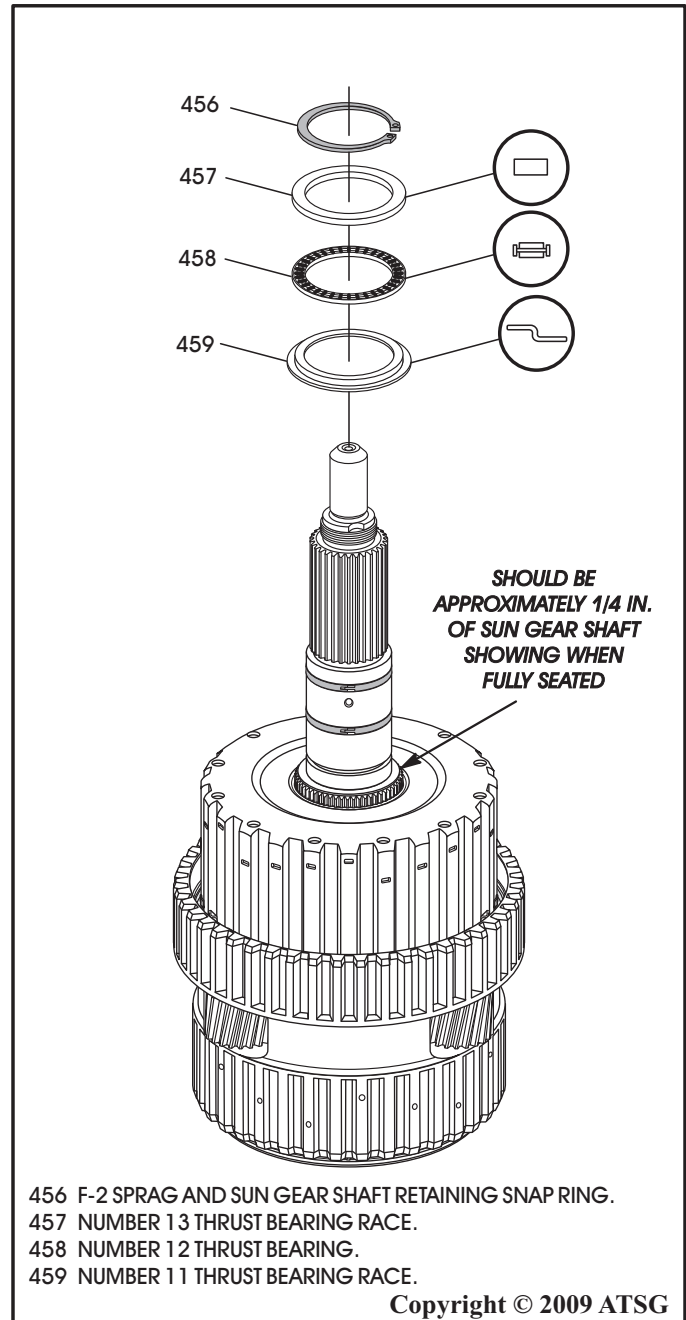

Figure 149
Note: There should be approximately 1/4 inch of sun gear shaft spline showing when fully seated, as shown in Figure 149.
54. Install the number 11 thrust bearing race, as shown in Figure 149.
55. Install the number 12 thrust bearing, as shown in Figure 149.
56. Install the number 13 thrust bearing race, as shown in Figure 149.
57. Install the sun gear shaft retaining snap ring, as shown in Figure 149.